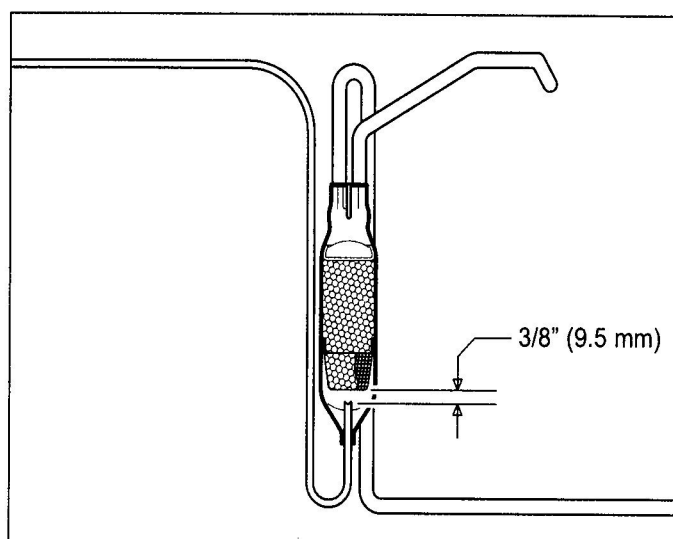

Figure 7-168. Capillary Tube Insertion Note
- When installing replacement filter-drier, insert capillary tube until it touches screen inside drier, then pull capillary tube away from screen approximately 3/8" before brazing. (See Figure 7-168).